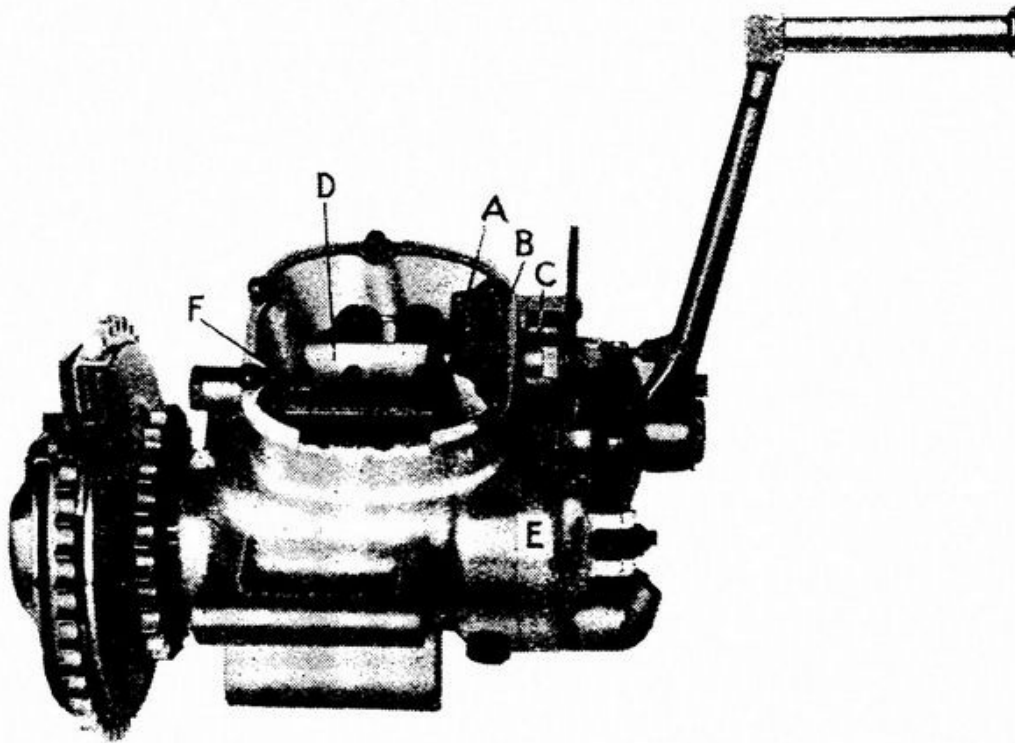
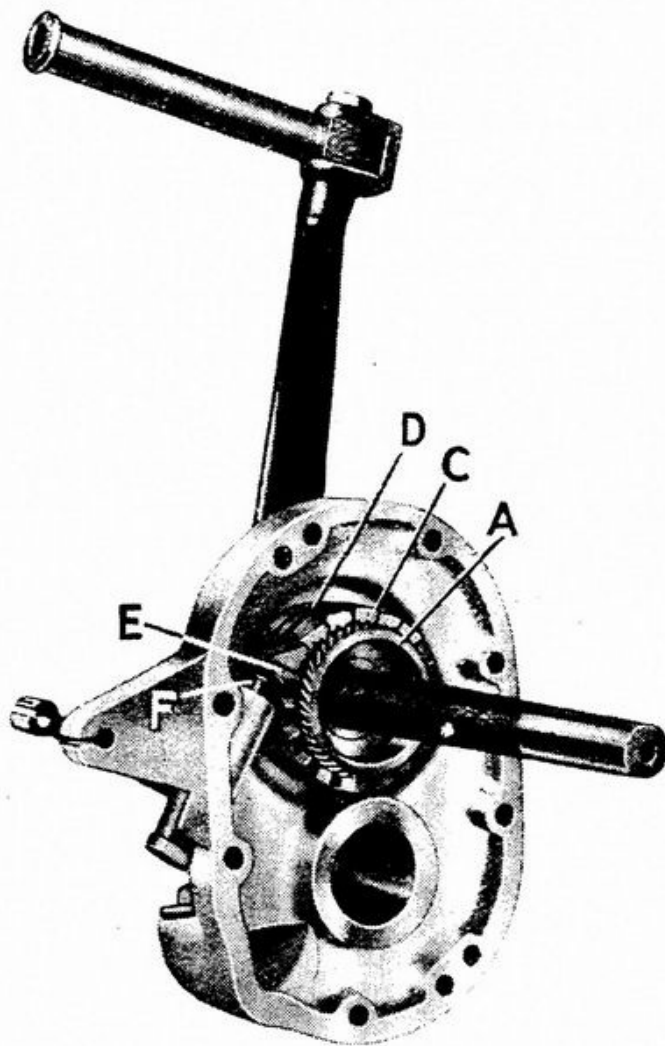

FIG. 20. THE RUDGE FOUR SPEED GEAR BOX.
FIG. 22. THE KICK STARTER MECHANISM.
Grip the box in a vice by holding down lugs at the bottom, take off the inspection cover (A, Fig. 20), noting that a grub screw (B) in this engages with a hole in the threaded cam plate bearing (C). Remove the cam plate complete with its bearing and external lever. Remove the end cover of the box (Fig. 22) complete with kick starter mechanism, but leaving the layshaft spindle in place. The removal of the nut securing the kick starter crank to its shaft allows of this.
Place the kick starter carrier (A, Fig. 22) in its bearing, hook on the inner end of the spring (D) to the inner end of the spring. attach the other end to the peg on the starter crank or slot in the spring cover of the 250 c.c. and wind this up until the crank has passed the vertical. Push the crank on to its serrations. Now thread the ratchet drive sleeve (C) and its spring (D) on to the vernier quick thread on the carrier (A) in such a way that the lug (E) on the driving sleeve is touching the stop (F) on the gearbox cover when the crank is about 20 degrees behind the vertical.
The illustration (Fig. 22) shows how these parts should appear when correctly set.
TO ADJUST THE GEARS. As mentioned above, a grub screw in the inspection cover engages with a hole in the threaded brass cam plate bush (C, Fig. 20). As the box was adjusted correctly in the first place it is simply necessary to ensure that the grub screw (B) is returned to this hole, when the setting must necessarily be correct.
It may be however, that the setting has been interfered with and that more than one hole will be found in the brass bearing. In such a case it is advisable to re-set the box. To do so, fit a strap over the threaded bearing (C, Fig. 20) held down by the existing studs on each side. This keeps the bearing rigid and allows the operator to look through the inspection aperture.